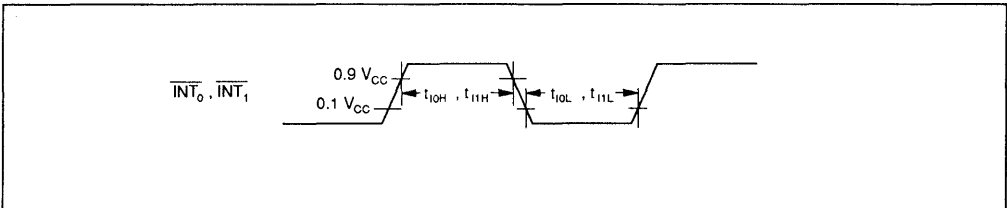

Figure 53 Interrupt Timing
4. See figure 53. The unit  $t_{cyc}$  applies when the MCU is in standby mode or active mode.
6. See figure 53. The unit  $t_{SUBcyc}$  applies when the MCU is in watch mode or subactive mode.  $t_{SUBcyc} = 244.14\ \mu\text{s}$  (32.768-kHz crystal oscillator)
6. See figure 53. The unit  $t_{SUBcyc}$  applies when the MCU is in watch mode or subactive mode.